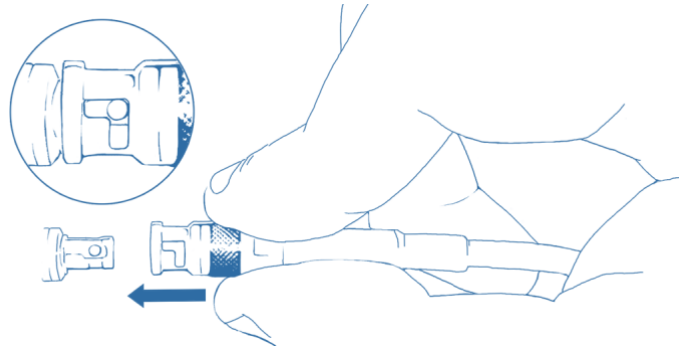

Figure 24 – Pushing the Micro-BNC connector into place
2. Remove the dust plugs from the module as shown in figure 24 (a).
5. Line up the module with the port and slide it into the port as shown in figure 24 (b).